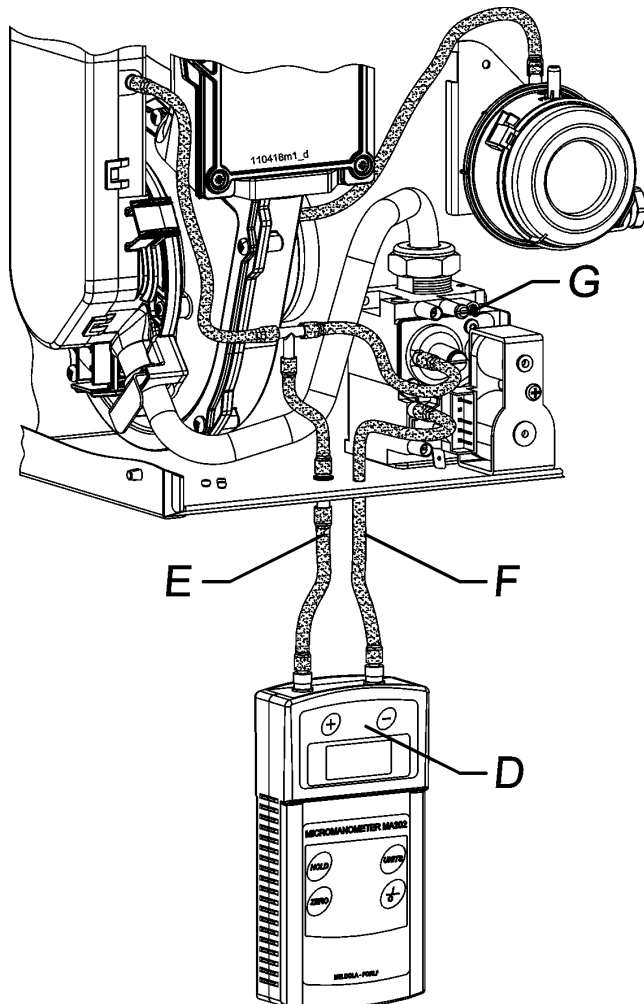

Figure 37 - Checking the combustion air pressure
9. the manometer connections must be made as shown in figure 37, to get the correct pressure reading;